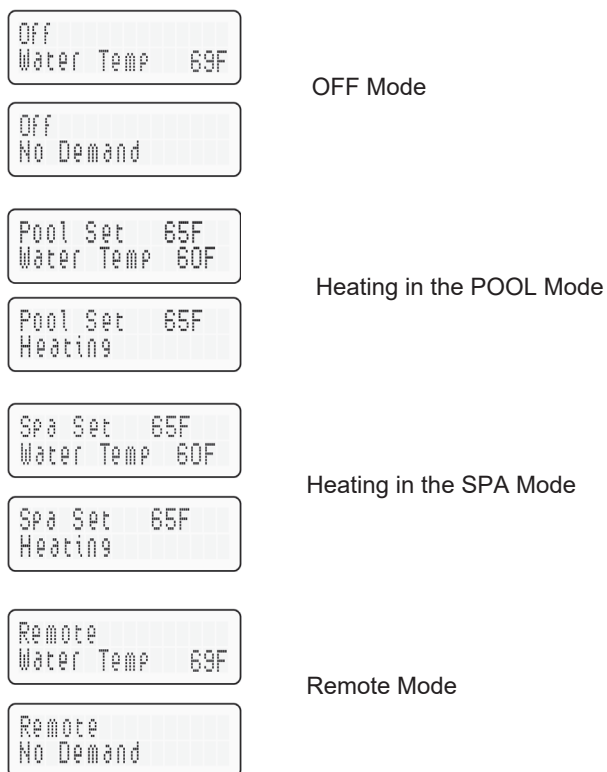

Figure 39. Remote Control Menu - Remote Operation
**⚠ CAUTION: Before installing remote controls to the heaters, read the following:** The heater is remote-ready in most cases. The digital liquid crystal display (LCD) shows the actual pool temperature, operating status, and service codes. See Figure 39. The touch pad on the control panel allows you to select the desired pool or spa temperature. It also indicates when a remote system is controlling the heater by displaying **Remote** in the display. When connecting the heater to a remote system, identify whether it is a two- or three-wire remote system. Select the appropriate instruction listed below to properly install the remote to the heater.